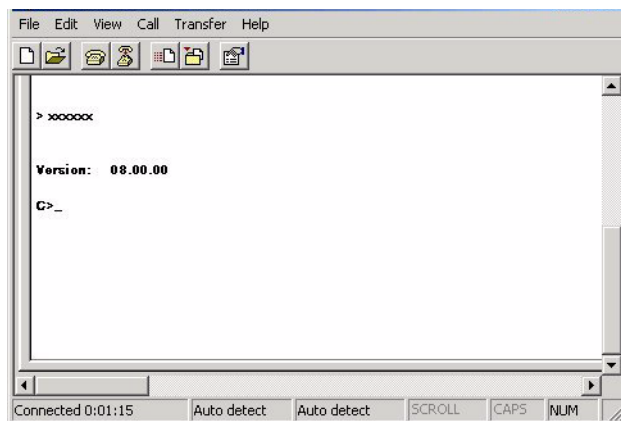

Figure 11: HyperTerminal window
8. At the > prompt, enter the user-level password (the default is password) and press **Enter**. The password is case sensitive. The HyperTerminal window displays with a C> prompt at the top of the window (Figure 11).